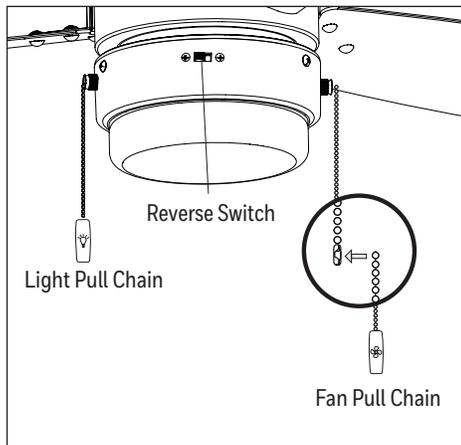

Figure 5.10
10. Attach the pull chain extensions to the pull chains (Figure 5.10). **Note:** When facing the reverse switch, the fan pull chain is on the right and the light pull chain is on the left.